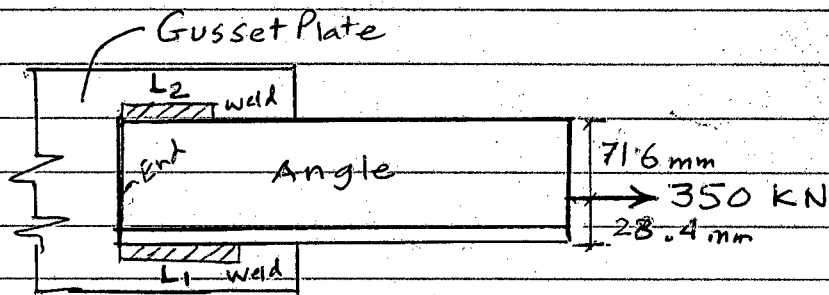

FIG. 3
3. A  $100 \times 100 \times 10$  mm angle is welded to a gusset plate and carries a load of 350 kN (see Fig. 3). Determine the lengths of side fillet welds required at the heel and toe of the angle for a non-eccentric connection. Maximum permissible weld is 8 mm considering thickness of the toe. Allowable shearing stress at the throat of the weld is 145 MPa. (26 ¼)